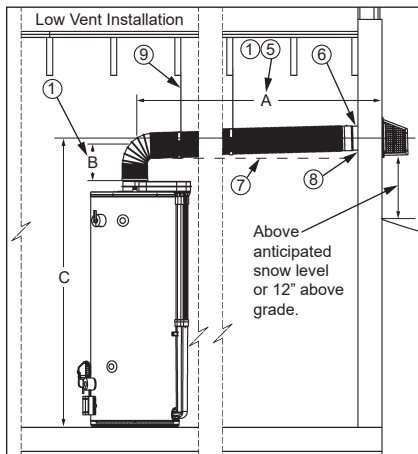
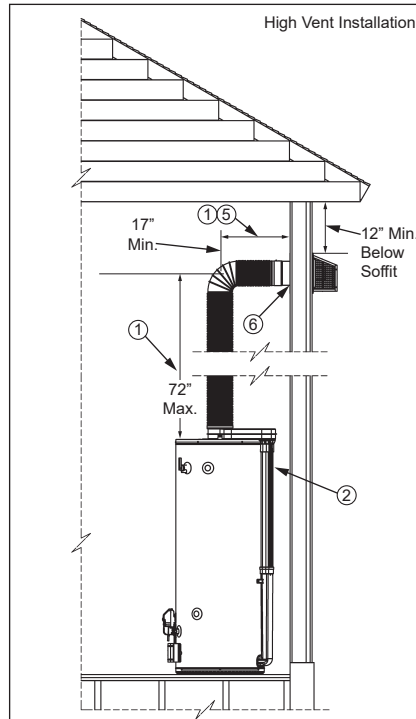
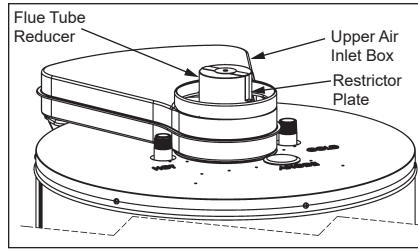

Figure 11 - Low Venting Installation
Figure 13 - High Venting Termination
Figure 17 - Restrictor Plate
Figure 11 through Figure 13 show various installation options.
- If the horizontal length of the venting is less than 30" the restrictor plate must be installed (see Figure 11 through Figure 13 and Figure 17).
Use Table 3 with Figure 11 - Figure 13.
NOTES: (applies to Figure 11 through Figure 13)
The vent restrictor plate (see Figure 17) is required for short horizontal runs on low vent installations (Figure 11) and high vent installations (Figure 13).
For high vertical runs use the restrictor plate only when the vertical run of the venting above the heater is greater than 48” (see Figure 13).